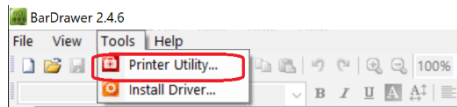

Figure 2
5. After printer driver installation, click Printer Utility under Tools (figure 2 below).